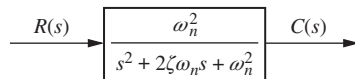

FIGURE I-4.2
5. The system shown in Figure I-4.2 has a unit step input. Find the output response as a function of time. Assume the system is underdamped. Notice that the result will be Eq. (13.28). [Section: 4.6]